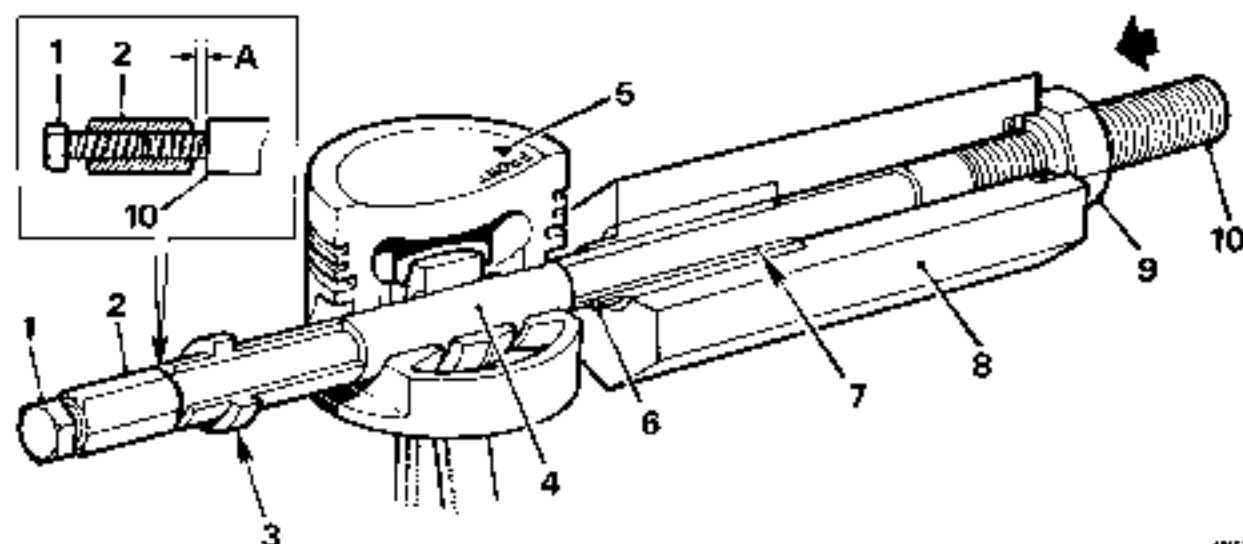

Fig. A.32
12. Screw the stop nut onto the centre screw and adjust to the correct end-flout ('A' Fig. A.32). Lock the stop nut securely with the lock screw.
21. Screw the stop nut onto the centre screw and adjust to the correct end-flout ('A' Fig. A.32). Lock the nut securely with the lock screw.